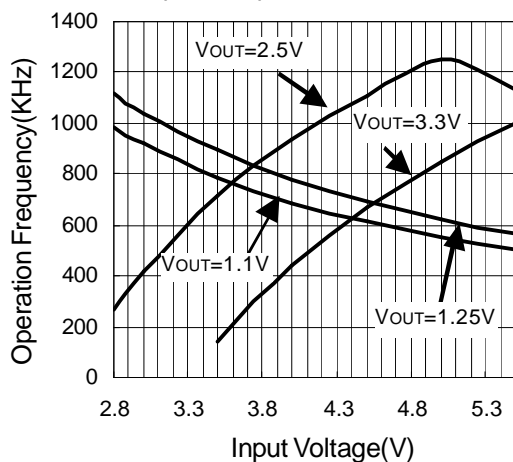

Fig 3. Maximum Recommended Operation Frequency
1. Select the desired PWM-mode switching frequency. See Figure 3 for maximum operating frequency.